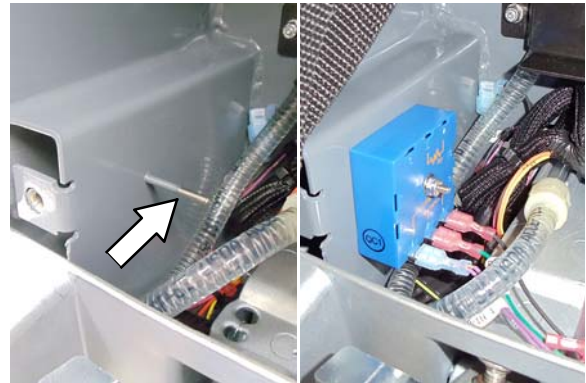

Fig. 8
8. Using the washer and nut supplied with kit, mount the timer module to the machine stud as shown (Figure 8). Route wires under solution hose.